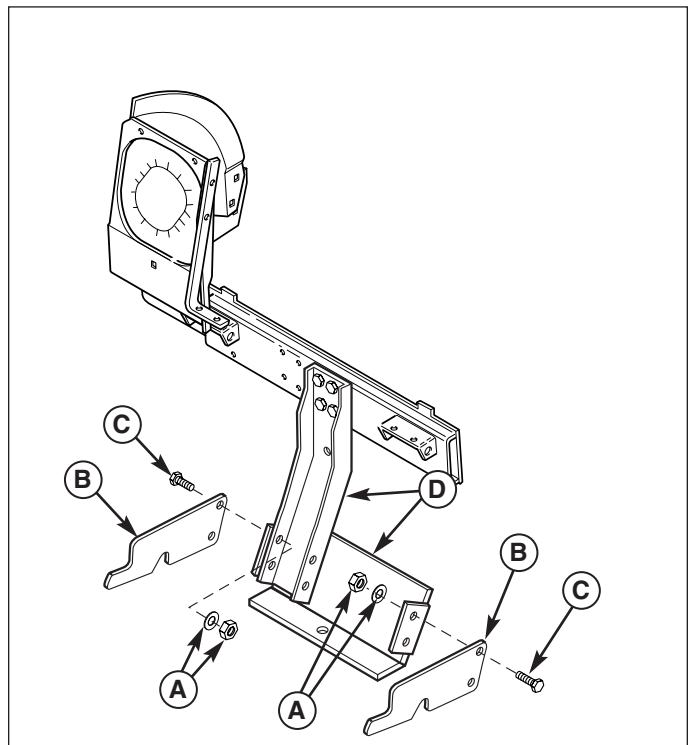

Figure 7. Assemble Catcher Frame (Prestige Shown)
4. Install the hitch side plates (B, Figure 7) and secure with four 3/8-16 x 1-1/4 cap screws (C), lockwashers, and 3/8-16 nuts (A).